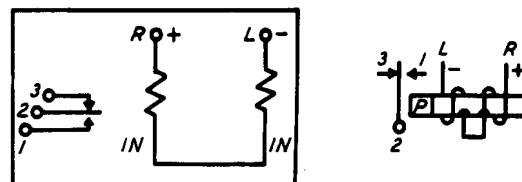

Fig. 34 – Winding and Spring Terminal Arrangement as Viewed From the Rear (terminal side) — 177- and 203-Type Relays
2.45 As viewed from the front of the relay the front contacts are numbered 1 and 4, the travel springs (the springs picked up by the hard rubber bridge) 2 and 5, and the back contacts 3 and 6. The winding terminal designations as viewed from the terminal side are shown in Fig. 34. The designations + and - shown in Fig. 34 indicate which polarity of the battery should be connected to this point.